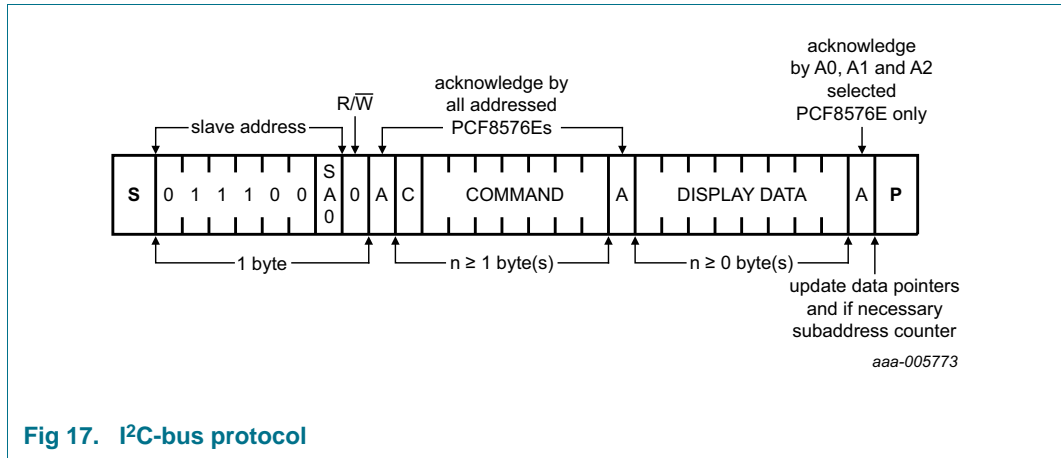

Fig 17. I²C-bus protocol
The I²C-bus protocol is shown in Figure 17. The sequence is initiated with a START condition (S) from the I²C-bus master which is followed by one of two possible PCF8576E slave addresses available. All PCF8576Es whose SA0 inputs correspond to bit 0 of the slave address respond by asserting an acknowledge in parallel. This I²C-bus transfer is ignored by all PCF8576Es whose SA0 inputs are set to the alternative level.